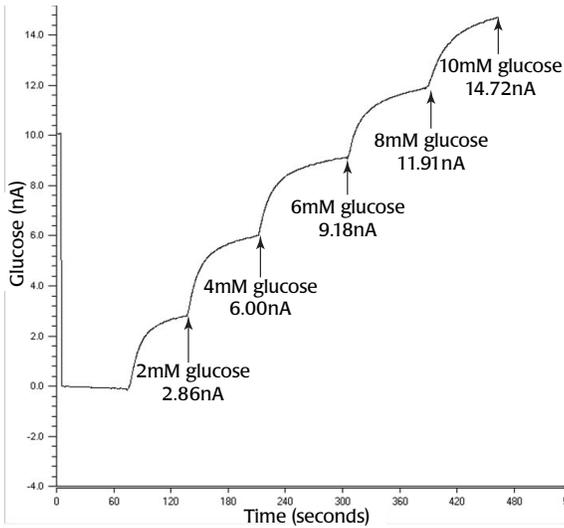

Fig. 17—Calibration plot showing five aliquots of 2M glucose injected into PBS solution
8. Repeat step 7 another three times. A typical calibration plot looks similar to the one shown in **Fig. 17**.